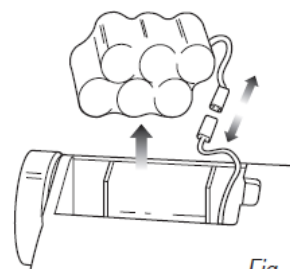

Fig. 13
4. Carefully lift out the battery pack and disconnect the wire terminals by pressing on the latch and pulling apart the wire terminal connectors. Remove the battery pack. (Fig. 13)